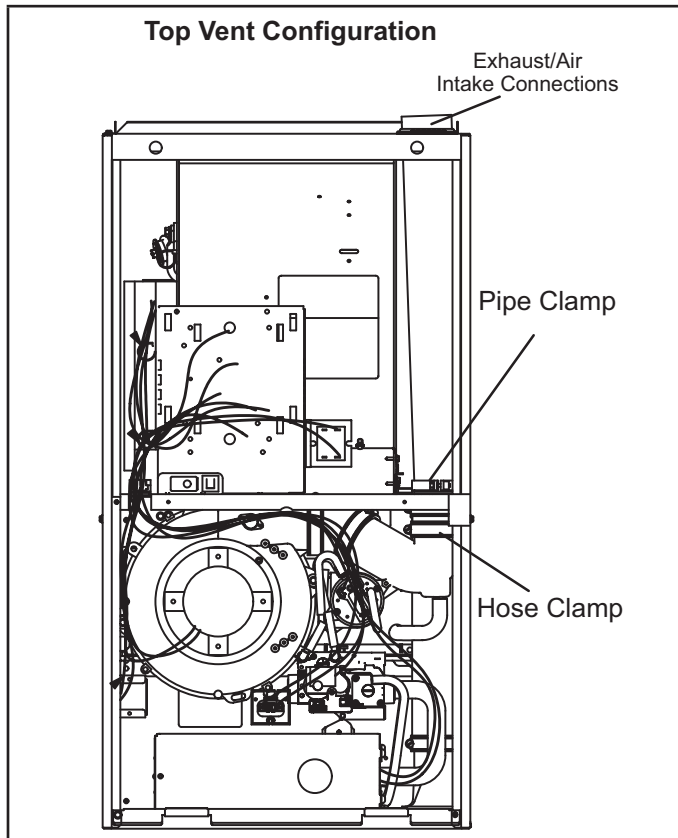
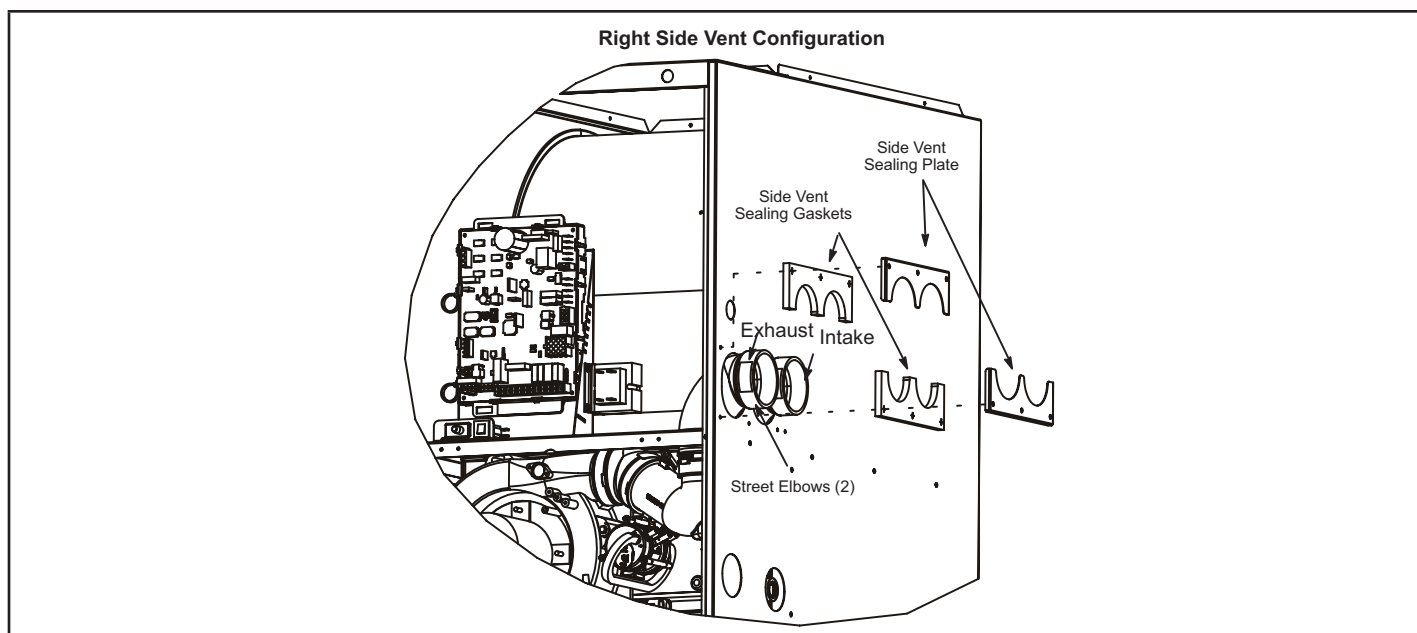

FIGURE 20
FIGURE 23
The EL297DFE is shipped with vent exhaust / air intake connection at the top cap. See "FIGURE 20". Using parts provided, the furnace may be field modified to have these connections on the right side of the furnace cabinet. See "FIGURE 23" and follow the steps below. For left side venting order kit 87W73.
- 2 - Loosen hose clamps which attach rubber fittings to the white PVC pipes inside the vestibule area. See "FIGURE 20".
- 3 - Loosen the clamp which secures the pipes at the blower deck. See figure 20.
- 11 - Peel protective backing from side vent sealing gaskets (2) and apply to side vent sealing plates (2) as shown in "FIGURE 23".
- 12 - Install the side vent sealing plates and gaskets on the exterior of the cabinet as shown in "FIGURE 23". Secure with six mounting screws (four reused and two provided from bag assembly). Holes are pre-punched in the parts and cabinet, no drilling is required.